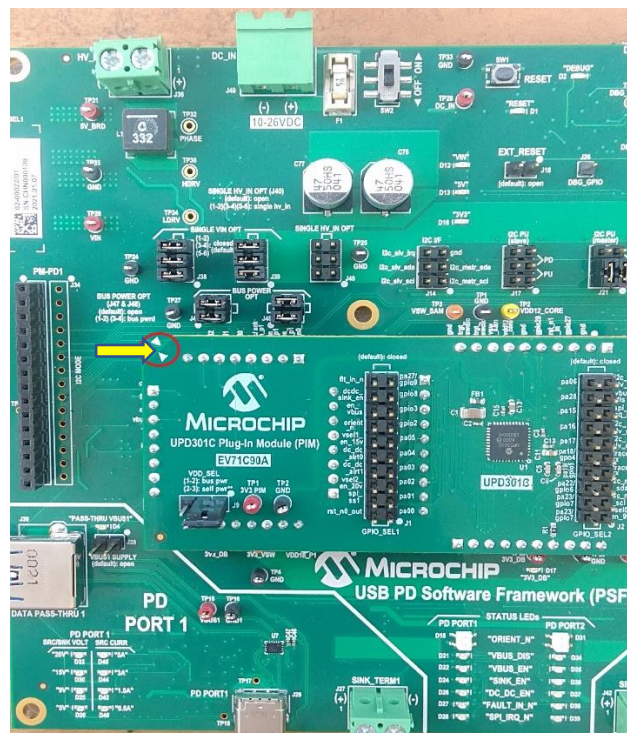

Figure 5.1 PIM Orientation
1. Connect the PIM according to the silk label marking on PSF EVB as shown in the Figure 5.1